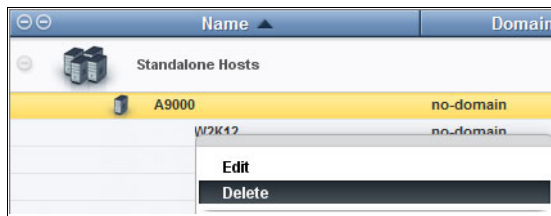

Figure 4-36 Deleting the host used for migration.
- In the XIV GUI select the host **A9000** and use the Delete action to delete the host used for migration as shown in Figure 4-36.